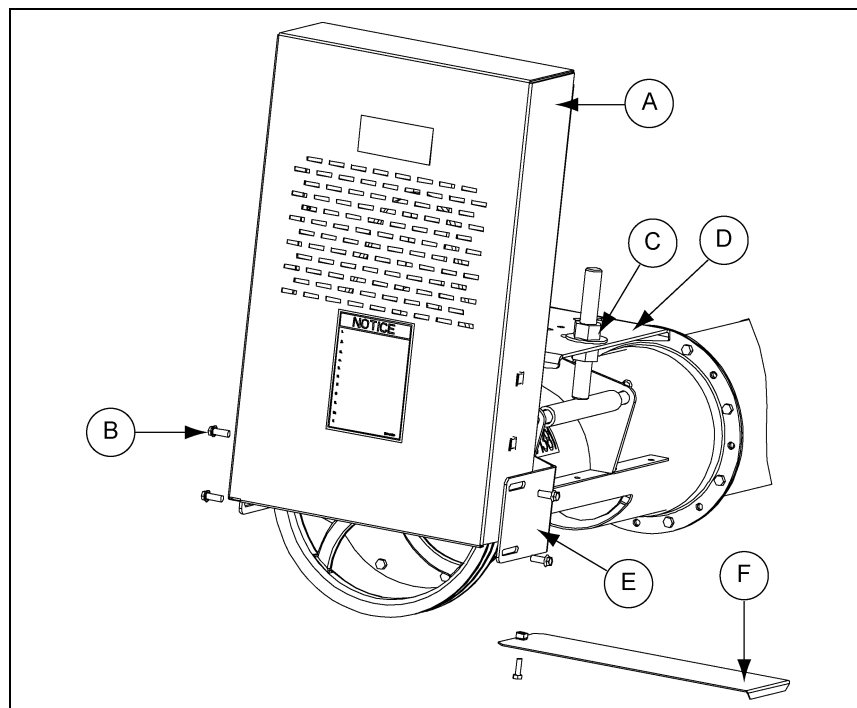

Figure 4U
1. With the belts properly tensioned remove the bottom belt guard cover (F) and slip belt guard (A) down over motor shaft.
2. Bolt (B) the belt guard (A) to the belt guard mounting brackets (E), the brackets should still be loose at this time.
3. Align the motor shaft and the flight drive shaft in the belt guard's (A) slot, making sure that the belt guard (A) DOES NOT contact either pulley, and tighten down the belt guard mounting brackets (E) to the bearing plate. (See Figure 4U.)